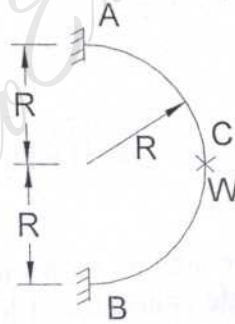

Fig. Q. 4
Q. 4) Determine the B.M. and twisting moment at A and C of the semicircular beam of radius 'R' shown in Fig. Q. 4. It is loaded with a load 'W' at the mid-point of the semicircle. Draw the B. M. diagram.